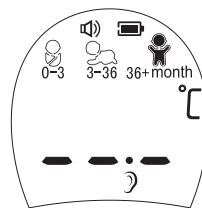

Figure 3
3. After self-checking Figure 3 appears on the display screen with beep, so you can start a new measurement.